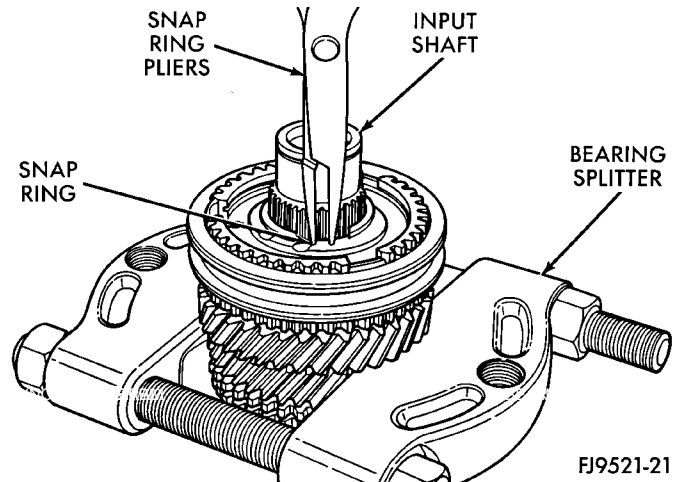

Fig. 79 5th Synchro and Hub Snap Ring Removal
(1) Install bearing splitter behind 5th speed gear. Remove snap ring at 5th synchronizer hub on input shaft (Fig. 79).